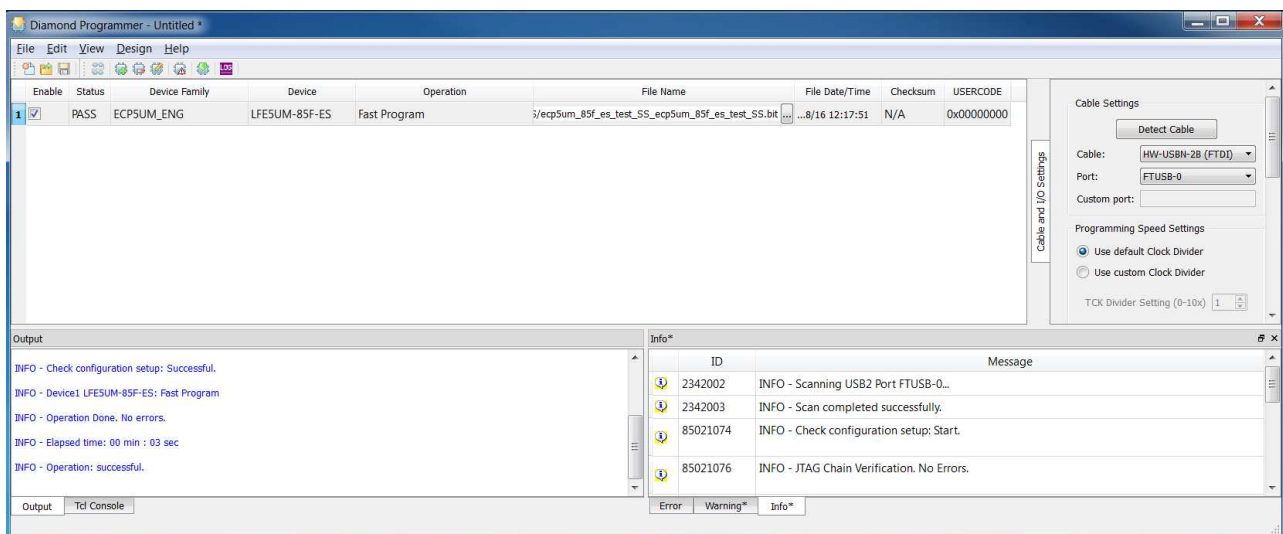

Figure 5.11. Successful Programming
- When the programming of the device is completed, the **Status** option changes to **PASS** and **Operation: successful** message appears in the **Output** console as shown in Figure 5.11.